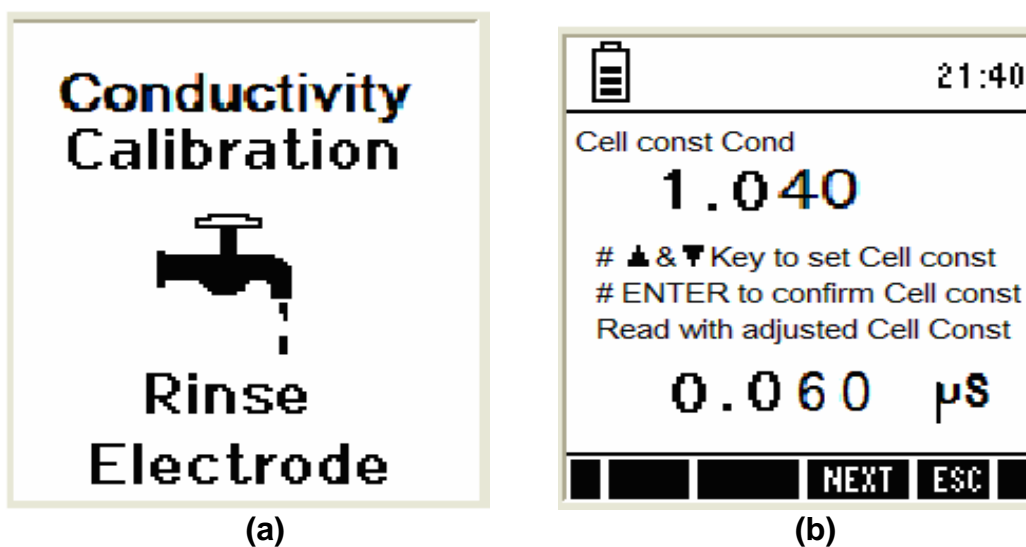
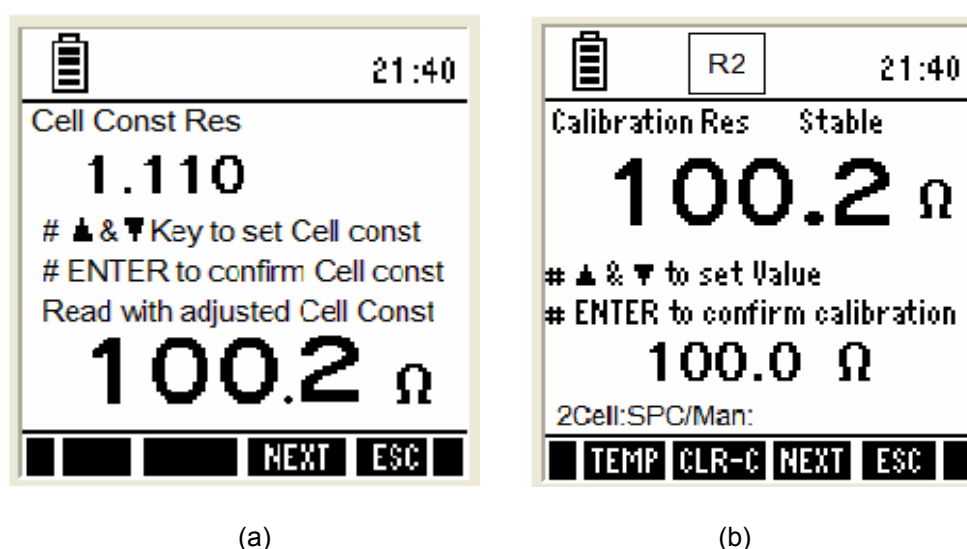
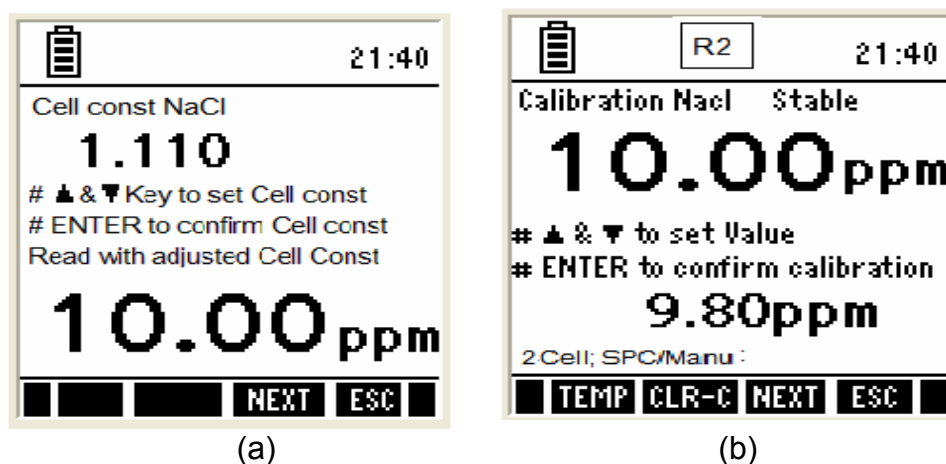

Figure 48 : Calibration Screens
Figure 52 : Resistivity Cell constant & resistivity calibration
Figure 54 : Salinity Cell constant & salinity calibration
4. The meter shows 'Calibration-Rinse Electrode' screen [Figure 48 (a)] for few seconds to prompt user to rinse electrode with de-ionized water before calibration (Refer 'Prepare the meter for measurement' section in page 40).
5. The meter then shows cell constant adjustment screen [Figure 48-(b)]. The upper display shows the cell constant of the conductivity cell & lower display shows the measured value of the solution with adjusted cell constant with respect to default calibration. Press **▲** & **▼** keys to adjust the cell constant for your custom solution in upper display.
3. The meter shows 'Calibration-Rinse Electrode' screen [Figure 48-(a)] few seconds and then shows the cell constant adjustment screen [Figure 52-(a)].
4. The upper display of the resistivity cell constant screen [Figure 52-(a)] shows the resistivity cell constant of your solution & lower display shows the measured value of the solution with adjusted cell constant. Press ▲ & ▼ keys to adjust the cell constant for your custom solution in upper display.
3. The meter shows 'Calibration-Rinse Electrode' screen [Figure 48-(a)] few seconds and then shows the cell constant adjustment screen [Figure 54-(a)].
4. The upper display of the cell constant adjustment screen [Figure 54-(a)] shows the salinity cell constant of your solution & lower display shows the measured value of the solution with adjusted cell constant. Press ▲ & ▼ keys to adjust the cell constant for your custom solution in upper display.
6. The screen shows two readings [Figure 54-(b)]. The upper display shows the salinity reading of the solution with respect to previous calibration (if any) & lower display shows the salinity reading of the solution without any calibration. Use ▲ & ▼ keys to adjust the upper display of the salinity value of your custom solution.